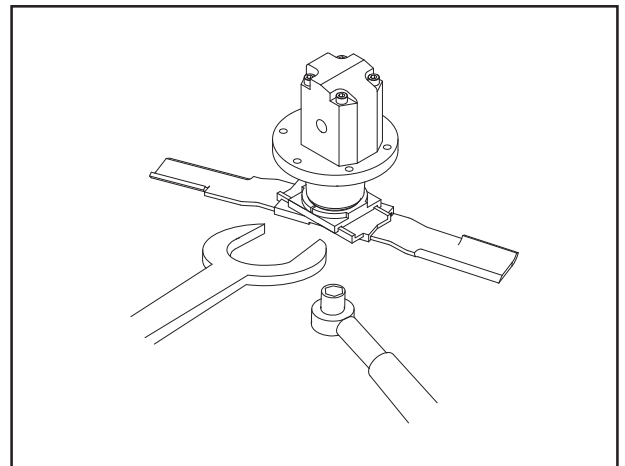

Fig.23
4. Tighten blade bolt with torque wrench set to 95N-m (70 ft-lb) torque (Fig.23) .